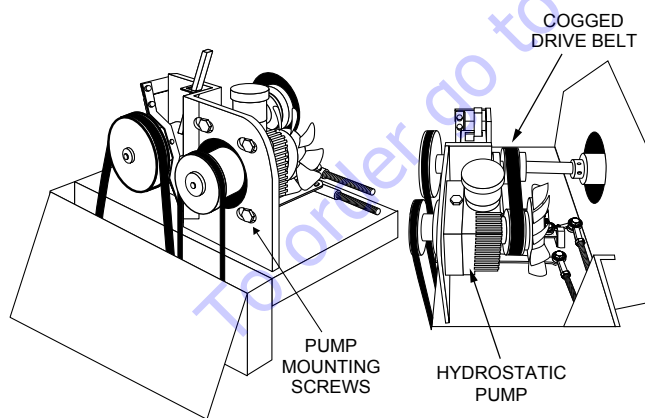

Figure 35. Hydrostatic Pump Drive Belt
1. To change or adjust the cogged drive belt (Figure 35) for the hydrostatic pump, loosen the four mounting bolts on the hydrostatic pump.